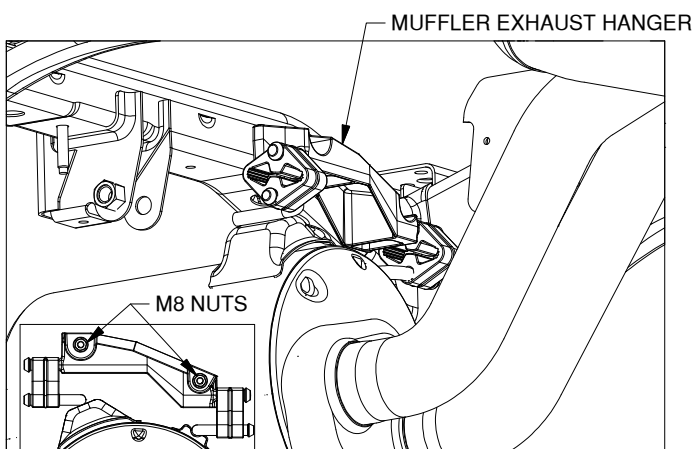

Figure A3: View under truck looking up at muffler hanger.
10. **Loosen muffler exhaust hanger.** For 2025 and newer vehicles, the muffler exhaust hanger must be loosened to provide adequate clearance for installation. Use a 13mm socket to loosen the two M8 nuts securing the hanger until it hangs down as far as possible, see Figure A3. The nuts do not need to be removed from the threaded studs.